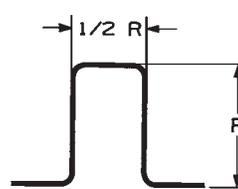

Fig. 1
Normally, piping systems are designed with sufficient directional changes which provide inherent flexibility to compensate for expansion and contraction. However, when this is not the case or when there is reasonable doubt as to the adequate flexibility of the system, expansion loops or expansion joints should be designed into the system. If an expansion loop (which is fabricated with 90° elbows and straight pipe as depicted in Fig. 1) is to be used, the leg length (R) should be determined by using the following formula to insure that it is of sufficient length to absorb expansion and contraction movement without damage.